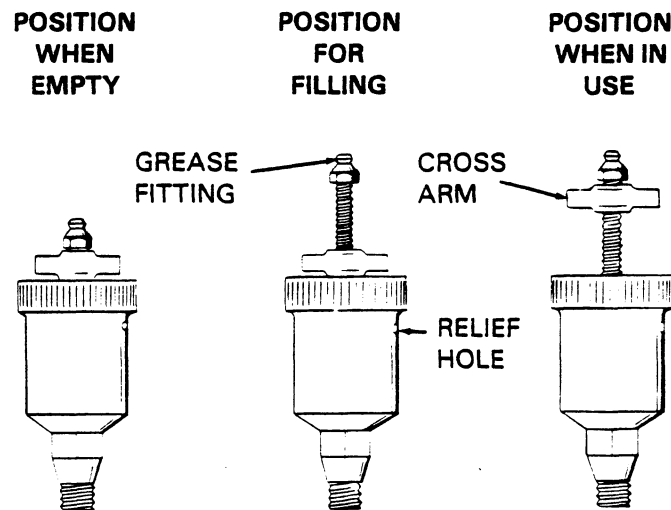

Figure 7. Automatic Lubricating Grease Cup
Before removing the seal assembly, turn the cross arm on the seal grease cup (7) clockwise until it rests against the cover (see figure 7). This will prevent the grease in the cup from escaping after the seal is removed.
Before starting the pump, fill the grease cup through the grease fitting with a good grade of No. 2 pressure gun grease until grease escapes from the relief hole. Turn the grease cup arm counterclockwise until it is at the top of the stem; this will release the spring to apply grease to the seal (see figure 7).